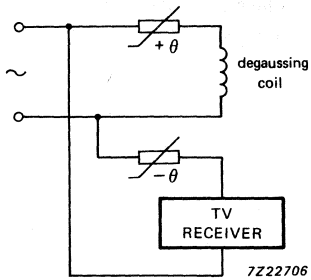

Fig.28 P/N dual device.
- The heater action outlined above may also be achieved using a Negative Temperature Coefficient (NTC) thermistor to act as an inrush current limiting device, in conjunction with a PTC (see Fig.28). This is known as a P/N DUAL degaussing device.